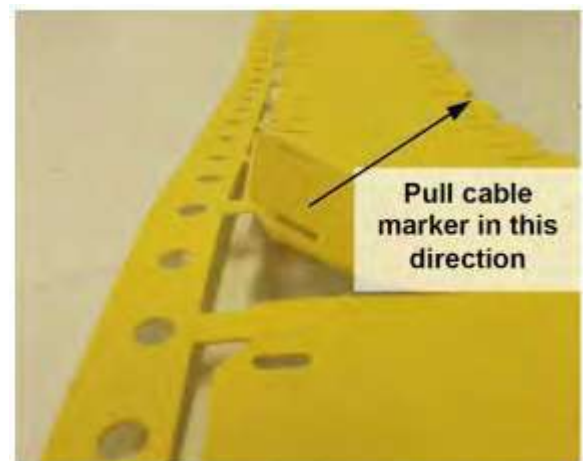

Figure 1
- (1) Determine the appropriately sized marker for the one being replaced using the parts list in Section 5,B.
- (2) Using a fine tip marker, write the reference designator and nomenclature (eg. A010-P Inj 6) on the new label. Allow ink 5 to 10 minutes to completely dry.
- (3) Grip cable marker by the end closest to the backbone.
- (4) Gently pull the marker away from the backbone as shown in Figure 1. This ensures that the force is applied across both of the perforations, thus preventing the product from tearing into the cable tie holes.